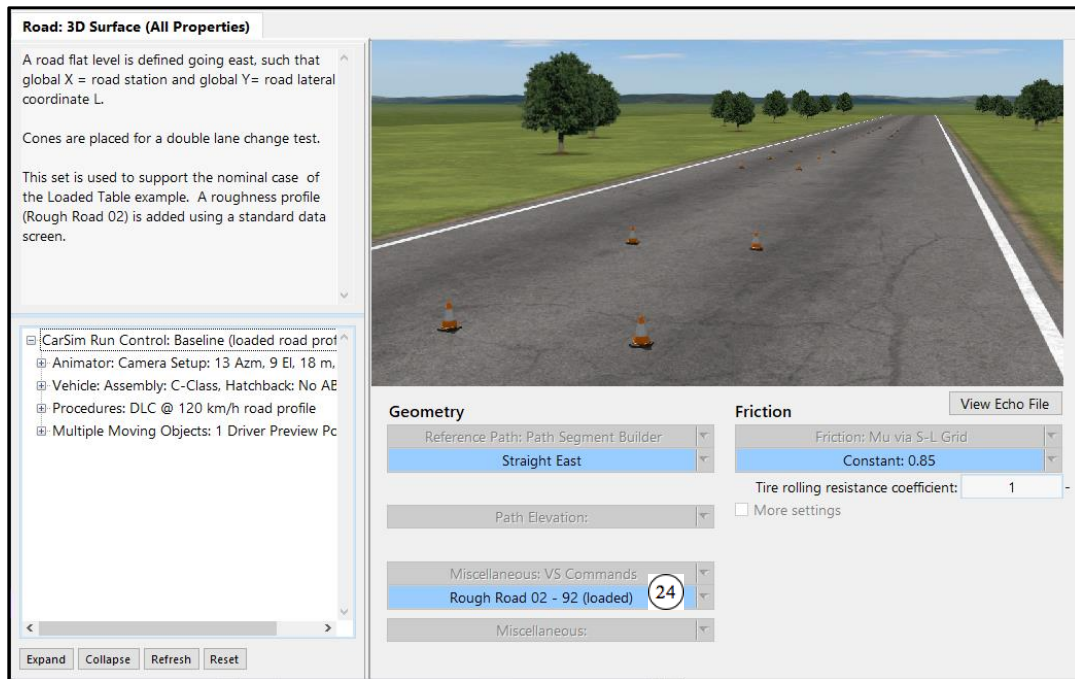

Figure 14: Road screen were Road Roughness VS Table data are imported
In this example the VS Table data are also imported into **Road: 3D Surface (All Properties)** screen found in the **Path and Road Surfaces Library** (Figure 14) (24).